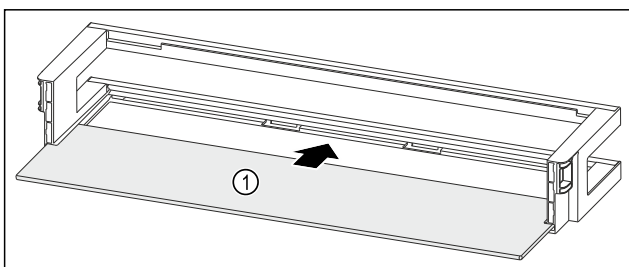

Fig. 154 Door rack with shelf
- ▶ Push the shelf Fig. 154 (1) into the side recesses.